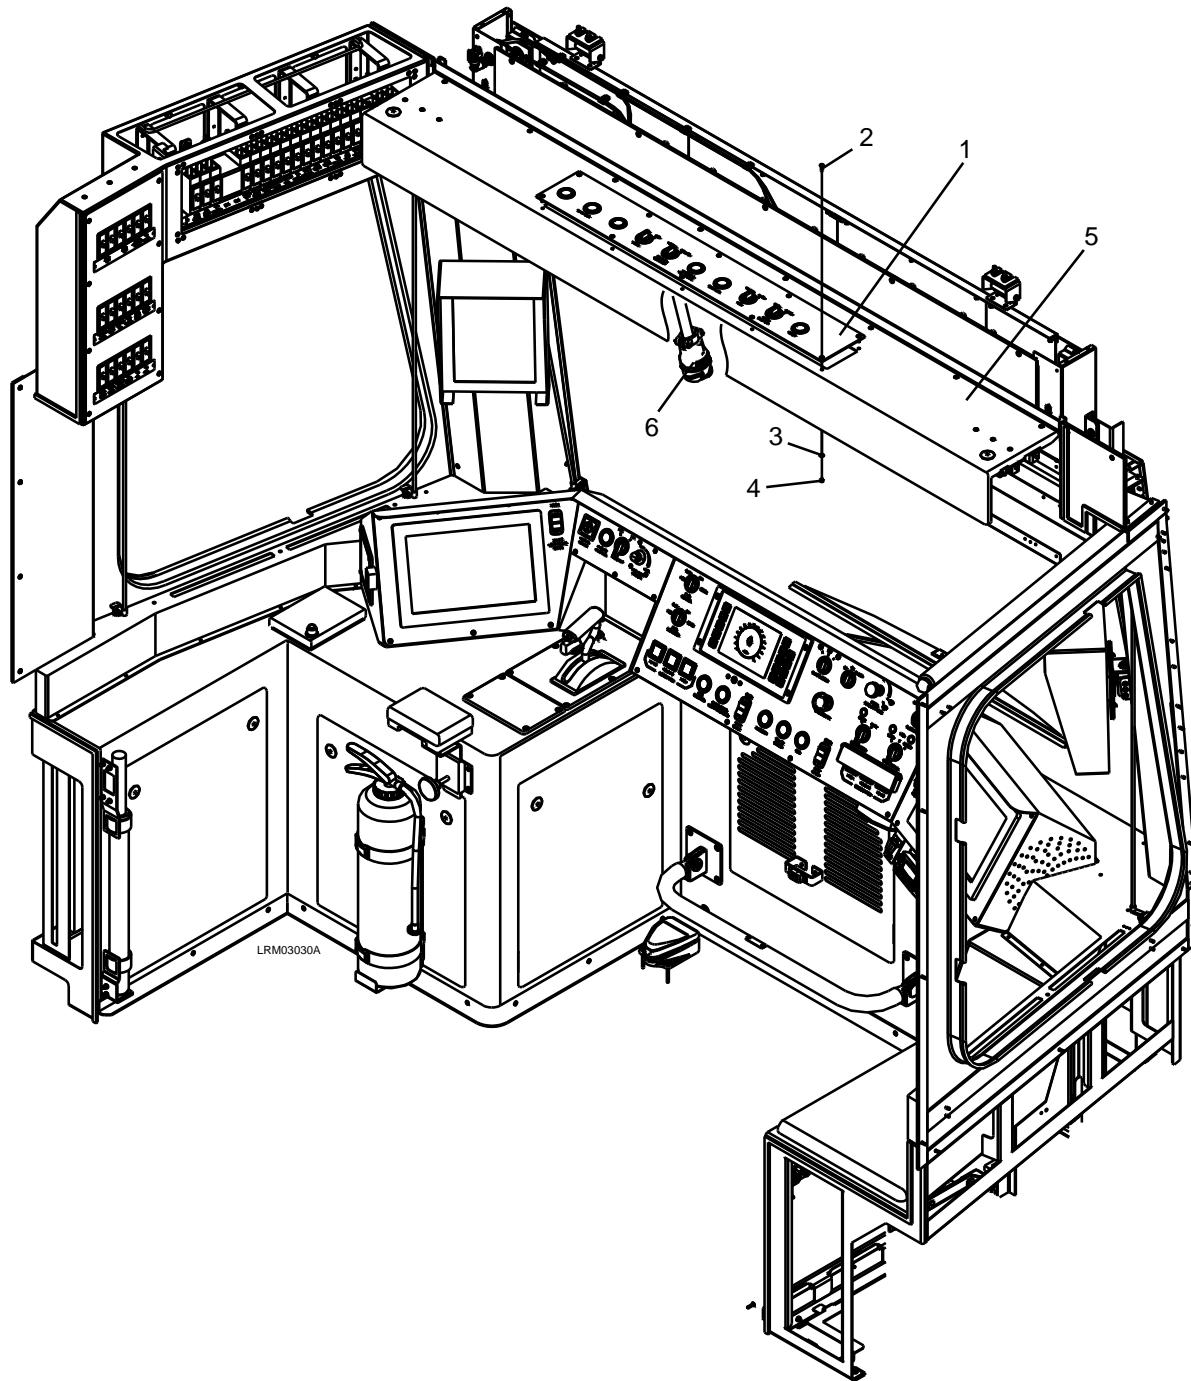

Figure 7-26: Upper Control Panel
1. Rotate the front destination sign cover (5) to access the Upper Control Panel (1) hardware and disconnect the electrical connector (6). See Figure 7-26.
2. Remove the ten M4 ESNA nuts (4), M4 plain washers (3), and M4 x 14 screws (2).
3. Carefully remove the Upper Control Panel (1).